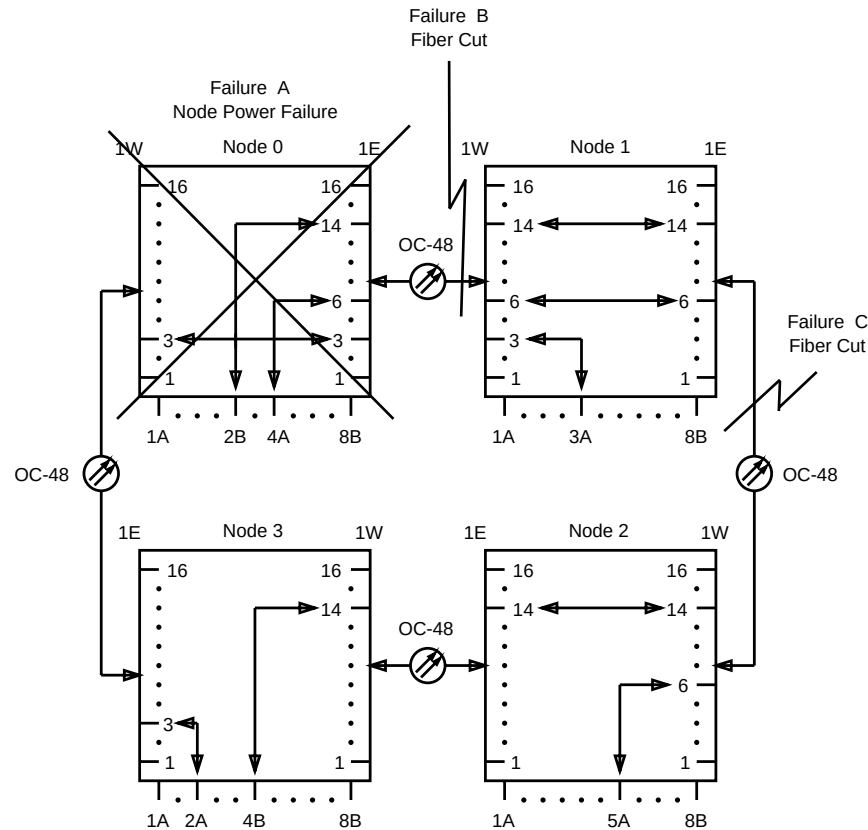

Figure 9-10. Single and Double Failures
- **Potential Loss of Service State #1:** If a node has a power loss (Failure A in Figure 9-10), the system enters this state. In this state, only add/drop traffic at the node where the power loss occurs is lost. All other traffic in the ring is protected using 2-fiber ring protection switching. (For this reason, this state is labeled as a potential loss of traffic.) When power is restored, the node transitions automatically to the "Normal Operation State."
- **Potential Loss of Service State #2:** If two spans fail (Failures B and C in Figure 9-10), the system enters this state. In this state, the ring is segmented and any loss of traffic will be from paths between the two segments, if any existed. Like the "Potential Loss of Service State #1," the degree of service outage depends on how traffic is provisioned (routed) on the ring. When either of the two span failures is cleared, the system transitions automatically to the "Protected State."
- **Potential Loss of Service State #3:** If a node has a power loss and a single span failure (Failures A and B in Figure 9-10), the system enters this state. In this state, the ring is segmented and any loss of traffic will be from paths between the two segments, if any existed. Any add/drop traffic at the node where the power loss occurs is also lost. The degree of traffic loss depends on how traffic is provisioned (routed) on the ring. In some cases, traffic loss could be nonexistent.